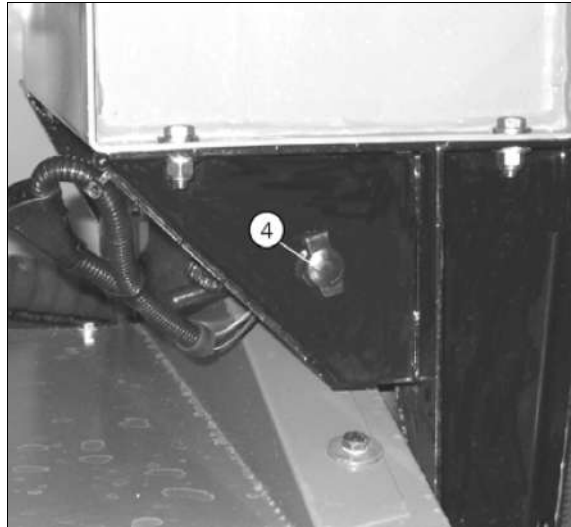

Fig. 6.
- In the engine compartment (4) (fig. 6).